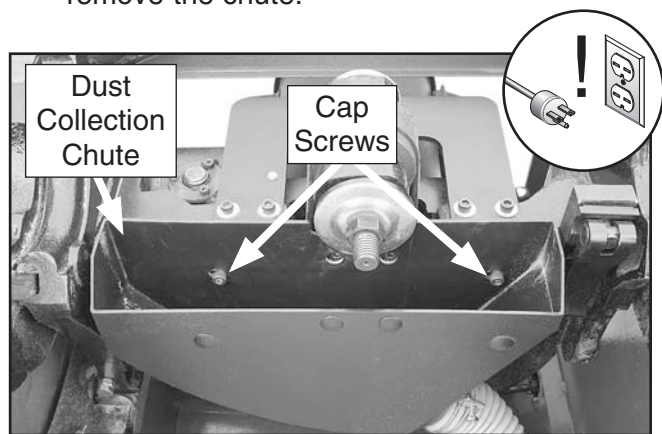

Figure 132. Dust chute mounting screws.
7. Remove the cap screws that secure the dust collection chute, shown in **Figure 132**, then remove the chute.